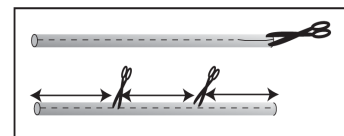

Figure 1
1. **To prepare the straws:** Cut a slit lengthwise through 3 regular straws using pointed scissors See figure 1. A slit makes the straws smaller in diameter so they will fit into the holes in the pipette tip “base.”
2. Cut the straws in 1/3’s to make sections about 6 cm (~2½”) long. See figure 1.